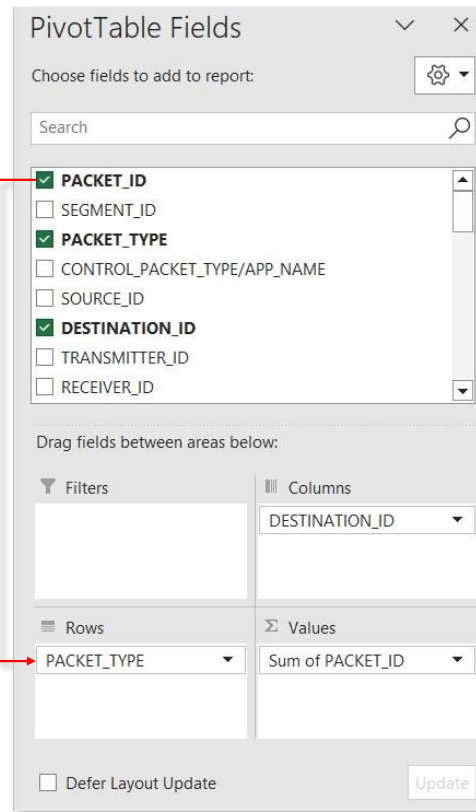

Figure 8-40: Select the PACKET_TYPE Check Box and drag it to the ROWS fields
- If you wish to know how many Data and how many were control packets then, check the PACKET_TYPE and drag it to the ROWS field as shown below Figure 8-40.